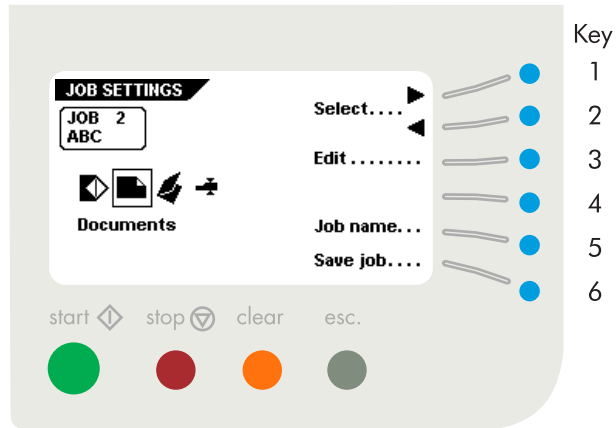
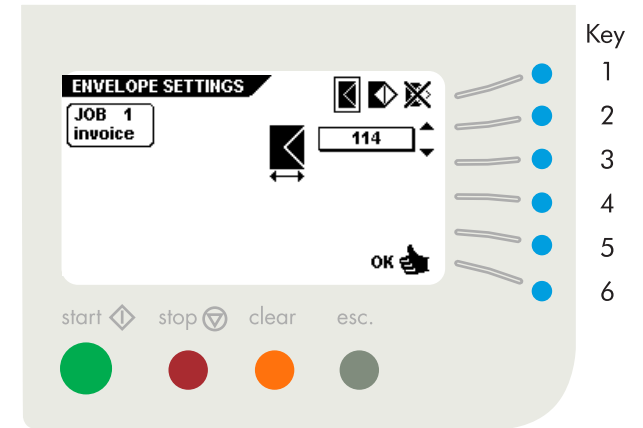

Fig. 35
Fig. 36
After confirmation (key 6) in the "create job" or "edit job" menu, the display shows the "job settings" menu as shown in fig. 35. The "job settings" menu shows the following functions:
- select a setting menu by pressing key 1 or 2.
- select the chosen settings menu to edit (key 3).
- go to the "job name" menu (key 5).
- save the job settings by pressing key 6 which will automatically get you back to the "job menu".
When the "envelope settings" menu is selected and key 3 is pressed in the "job settings" menu, the display shows the screen as shown in fig. 36. In this menu, the following choices are available by pressing key 1:
When "envelope with closed flap" is selected the display shows the screen as shown in fig. 36. The following choices are available: